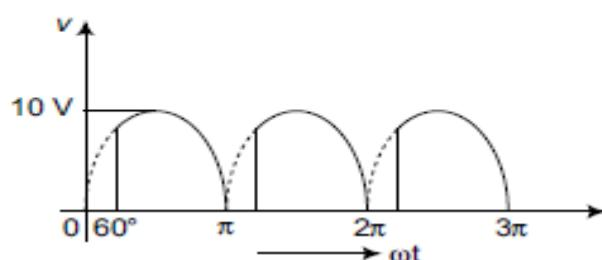

Fig. 2.23
**Example 4:** The full wave rectified sine wave shown in Fig. 2.23 has a delay angle of  $60^\circ$ . Calculate  $V_{av}$  and  $V_{rms}$ .